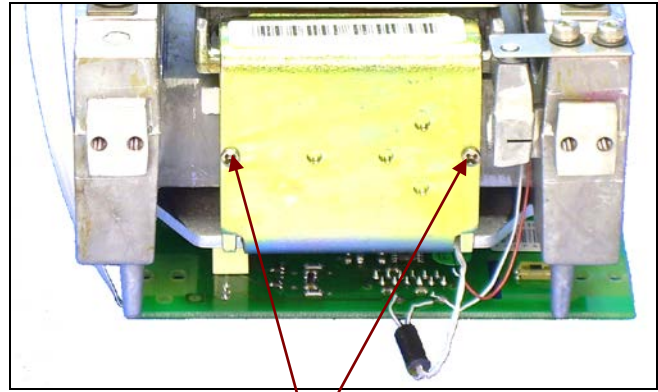

Figure 3-68. Two screws secure Magnet Half.
6. Position the Temperature Sensor wires so they clear the opening on the bottom of the Magnet Half. (See Figure 3-68.) Install the Magnet Half in front of the Ratio Coil, so screw holes align. Insert the two screws and tighten them.